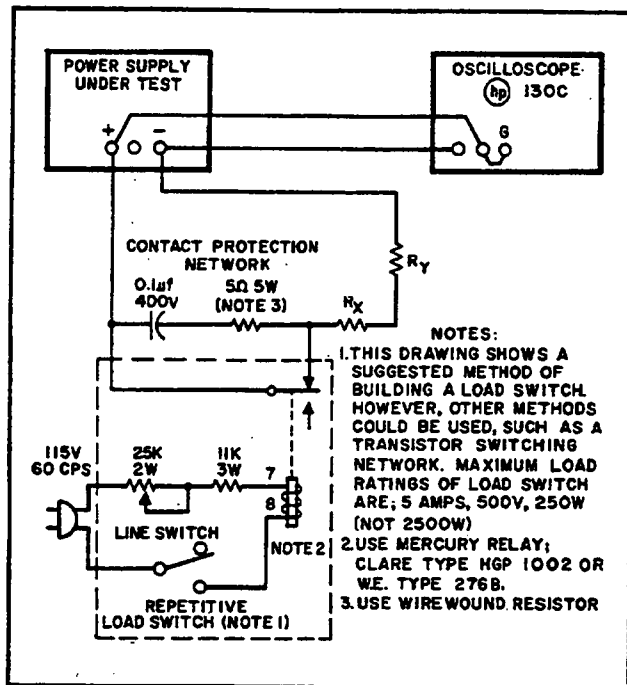

Figure 5-6. Transient Recovery Time, Test Setup
| Repetitive Load Switch | Rate: 60-400Hz, 2μsec rise and fall time. | Measure transient response | See Figure 5-6. |
5-29 A mercury-wetted relay, as connected in the load switching circuit of Figure 5-6 should be used for loading and unloading the supply. When this load switch is connected to a 60Hz ac input, the mercury-wetted relay will open and close 60 times per second. Adjustment of the 25K control permits adjustment of the duty cycle of the load current switching and reduction in jitter of the oscilloscope display.
5-30 The maximum load ratings listed in Figure 5-6 must be observed in order to preserve the mercury-wetted relay contacts. Switching of larger load currents can be accomplished with mercury pool relays; with this technique fast rise times can still be obtained, but the large inertia of mercury pool relays limits the maximum repetition rate of load switching and makes the clear display of the transient recovery characteristic on an oscilloscope more difficult.
- Connect test setup shown in Figure 5-6.